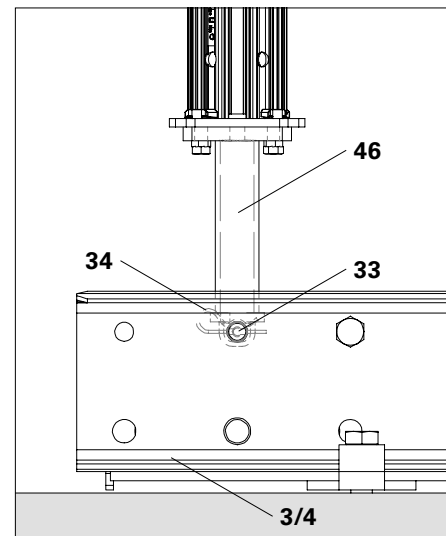

Fig. B1.02c
2. Fix the Compression Brace Head MP/SRU (46) to the Climbing Rail RCS (3/4) using 1x Fitting Pin  $\varnothing 21 \times 120$  (33) and secure with Cotter Pin 4/1 (34). (Fig. B1.02c)